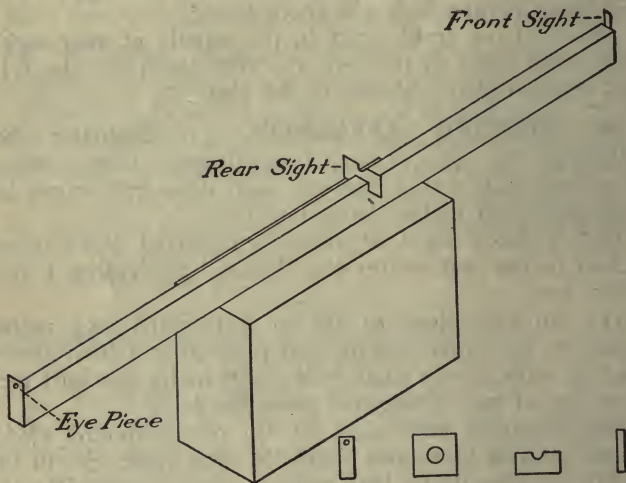

FIG. 7.—Sighting Bar.
**56. SIGHTING APPARATUS.** (1.) **Sighting Bar** (See Fig. 7). (a) A bar of wood about 1 by 2 inches by 4 feet with a thin slot one inch deep cut across the edge about 20 inches from one end;